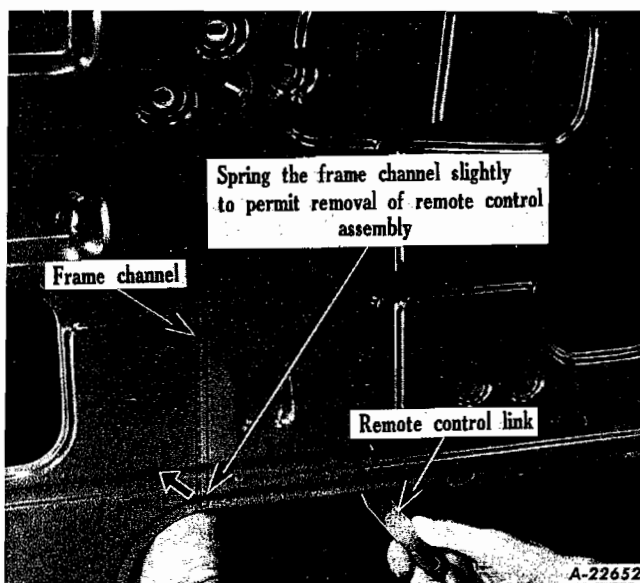

Fig. 44
14. Remove two retaining screws at lower end of door glass front channel frame bracket to allow sufficient movement of channel to permit removal of remote control assembly as shown in Fig. 44. CAUTION: Do not move channel to the extent distortion is encountered as this will cause interference with door glass operation after reassembly.